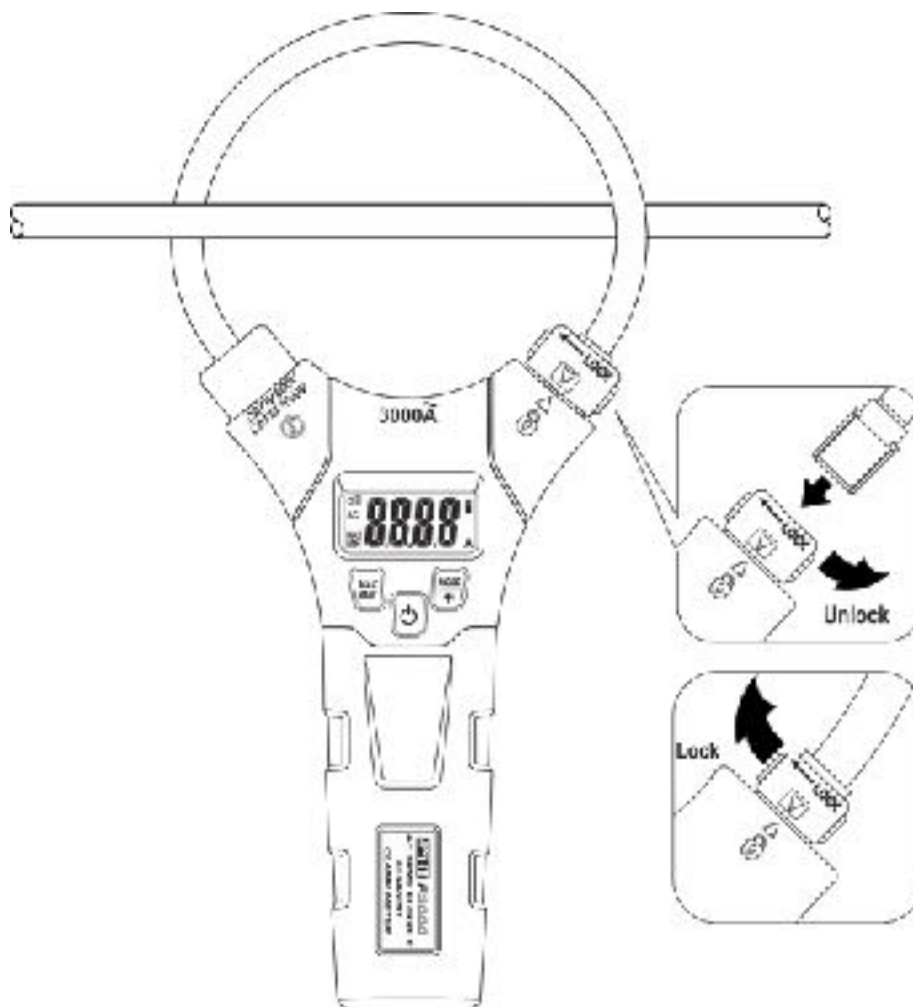

Fig. 2: Opening/closing of flexible jaws
- In order to meet the meter's accuracy specifications, always put the conductor as close as possible to the middle of the jaws (see Fig. 2).
1. Turn the fastening connector by 90° counterclockwise in order to unlock the jaws (see Fig. 2).
3. Insert the jaws back into their seat and turn the fastening connector by 90° clockwise until the two arrows are aligned and the jaws are locked (see Fig. 2)